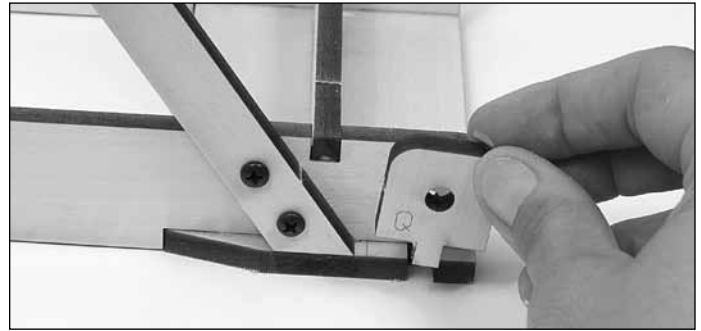

Figure 16
10. Gather the four Parts Q. On the outside corners of the trebuchet frame, you will see a notch just to the side of where the angled Parts I rest. Glue a Part Q into each of these (Figure 16). Let the assembly dry. Insert an axle bushing into the hole of each Part Q from the outside of the frame.